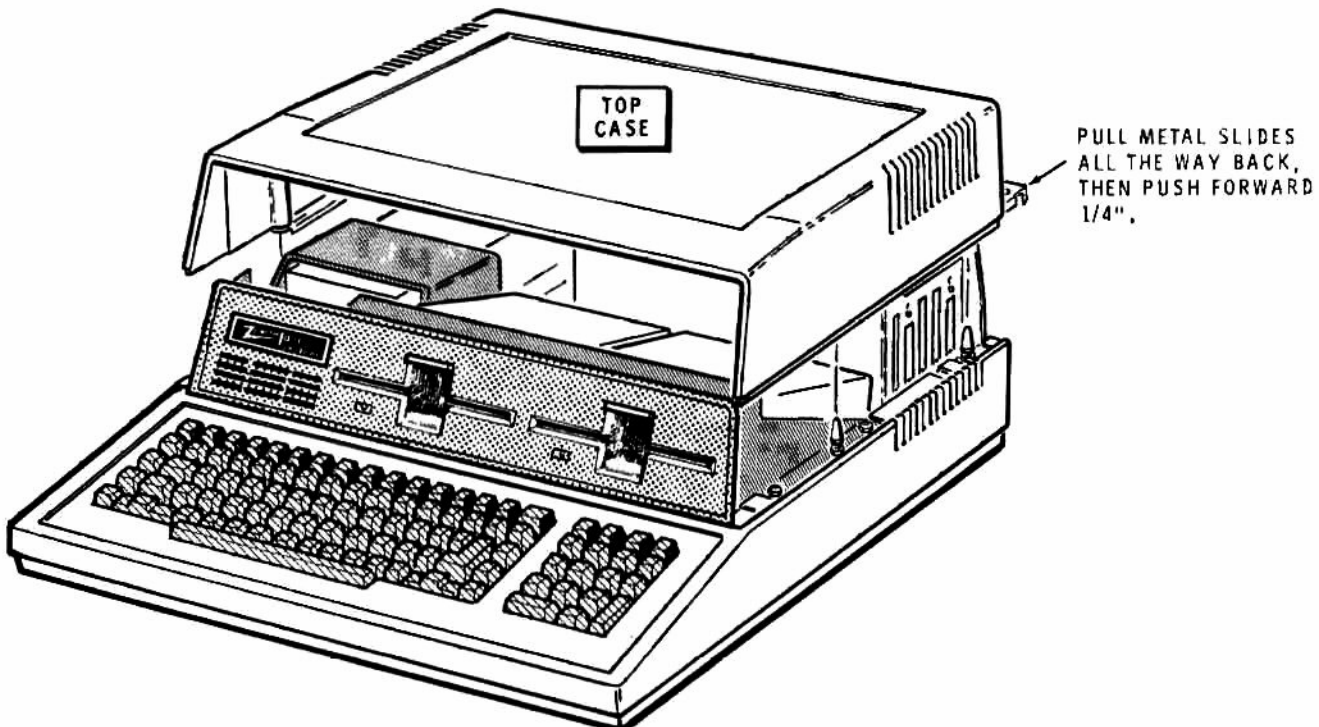

Figure 2.4. Top Case Removal
- Refer to Figure 2.4. Move the metal slides all the way to the back and then slide them toward the front of the computer about 1/4", as shown.